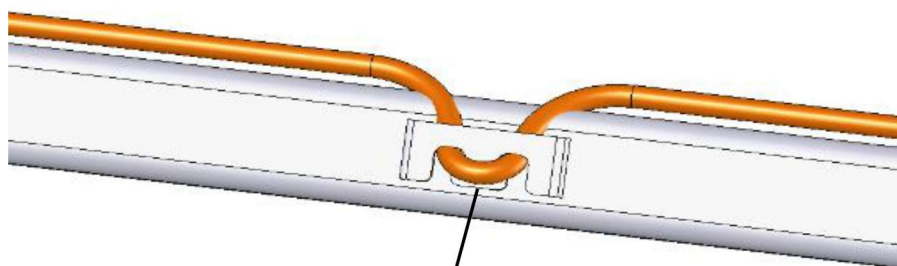

Figure 6
6. With the goal now fully assembled, place the net flat on the ground and locate the corners of the net. Locate the centerline of the bound edge that will be attached to the crossbar. The centerline of the binding will be attached to the centerline clip of the crossbar. Lay the goal down on its face and attach the net by first pushing the outer binding through the clip, then securing in the groove (Fig. 6). Start in the middle of the crossbar and move outward, attaching every other clip, and then go back through and attach the remaining clips. Once clipped, apply weight to the clipped net to stretch material. Next, work down both uprights, ensuring that the net is on the outside of the End Frame. Follow the same procedure used for the crossbar. Finish by attaching the net to the Ground Bar in the same manner.